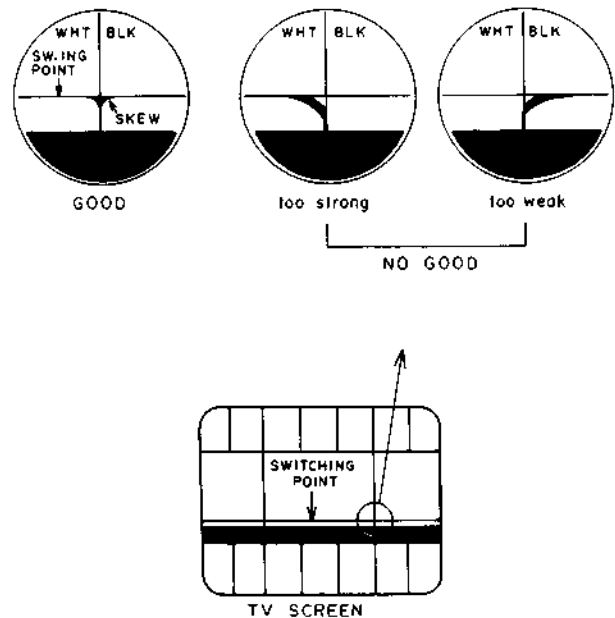

Fig. 5-2
- 7) Observe the TV screen and adjust V-HOLD for TV so that switching point appears on the TV screen as shown in Fig. 5-2.